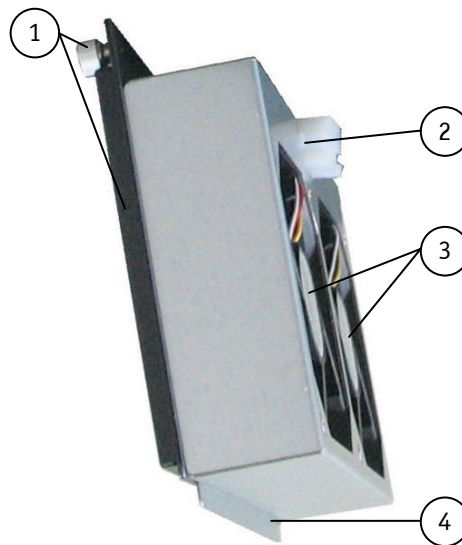

Fig. 23: Fan slide-in module
The two system fans (Fig. 23 and Fig. 42, pos. 3) are integrated in a user-friendly, replaceable fan slide-in module (hot-swap). The fan slide-in module is mounted in a fan compartment on the front side of the system (Fig. 41, pos, 5). The system fans are temperature controlled via the temperature sensors installed in the KISS 4U Short V2 platform. Thus, a reliable air circulation for optimal active cooling of the platform is guaranteed.